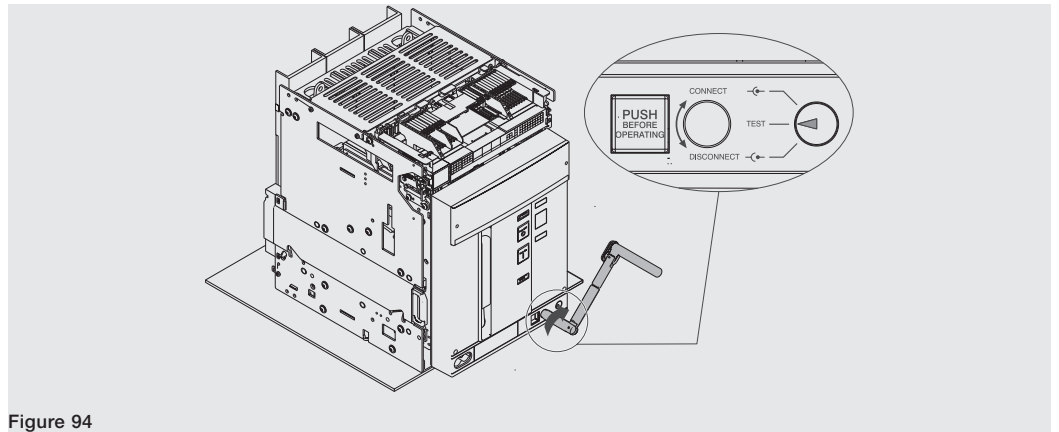

Figure 94
10. Turn handle clockwise until pushbutton projects and signaling device indicates that circuit-breaker is in position **TEST**. See Figure 94.